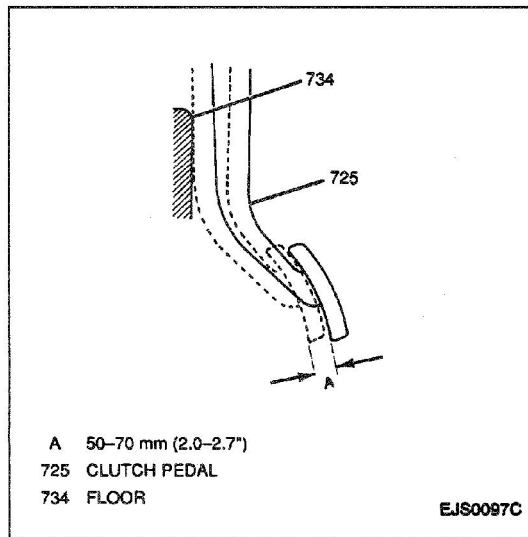

Figure 6—Clutch Pedal Distance from Floor for Clutch Pedal Position (CPP) Interrupt Switch Adjustment
- B. Depress the clutch pedal to within 20 to 30 mm (0.8 to 1.2 in.) from the floor (Figure 6).